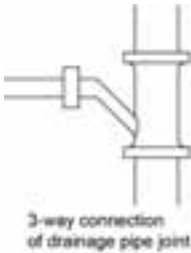

Fig. 4.24
- (8). Connect the drainage branch pipe to the standpipe or horizontal pipe of drainage main pipe. The horizontal pipe cannot be connected to the vertical pipe at a same height. It must be connected in a manner as shown below:
- NO.1: Attach the 3-way connection of the drainage pipe joint as shown in Fig. 4.24.